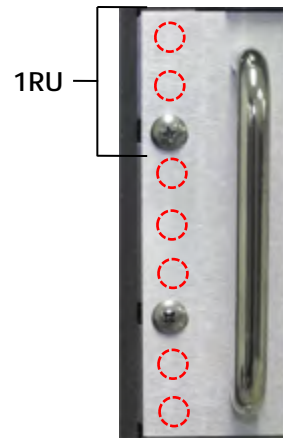

Figure 5 – Front Mounting Screws
1. On the front mounting rails, locate the desired set of three rack units – 9 screw holes in total. Place a clip at the top hole of the bottom rack unit and place a clip at the bottom hole on the top rack unit. Refer to Figure 5 to the right.